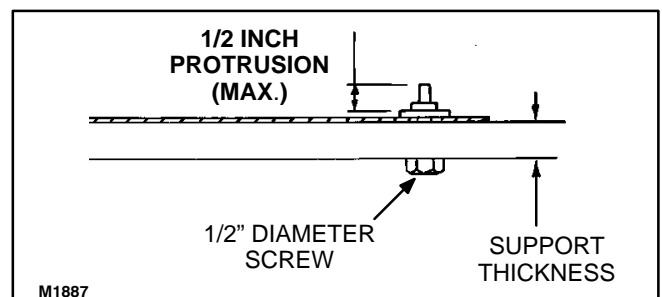

FIGURE 3-6. COMPARTMENT MOUNTING
- Mount the generator set in the compartment with four 1/2" diameter bolts and nuts. Screw length must not protrude more than 1/2-inch (13 mm) through the genset base (Figure 3-6).